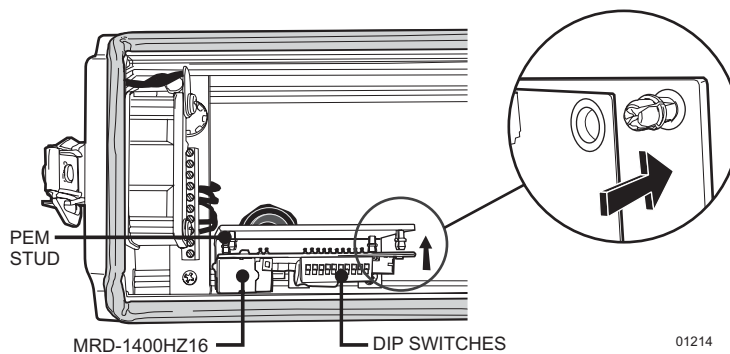

Figure 6. Installing the MRD Board onto the EH3512 Adapter
6. Refer to Figure 6. Position the board over the EH3512 adapter. The DIP switches of the board should face up. Lightly press on each corner of the board to attach it to the PEM studs of the adapter.